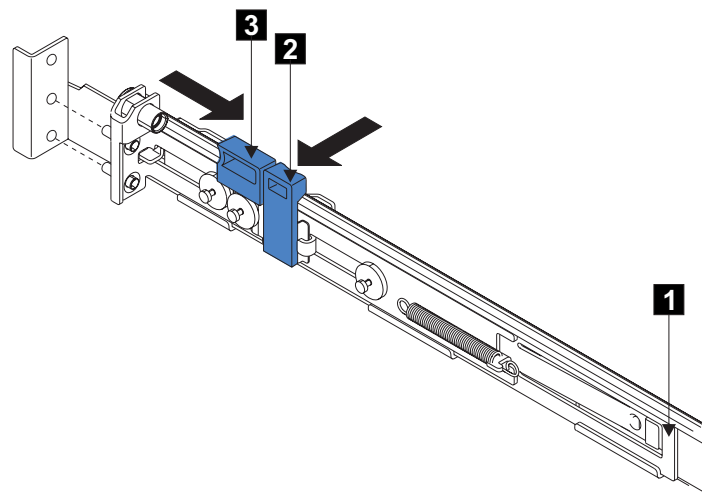

Figure 45. Opening the back latch-lock carrier assembly
5. Push the back rail bracket **1** (Figure 45) toward the front of the rail until it stops. The rail is now at its shortest adjustment.